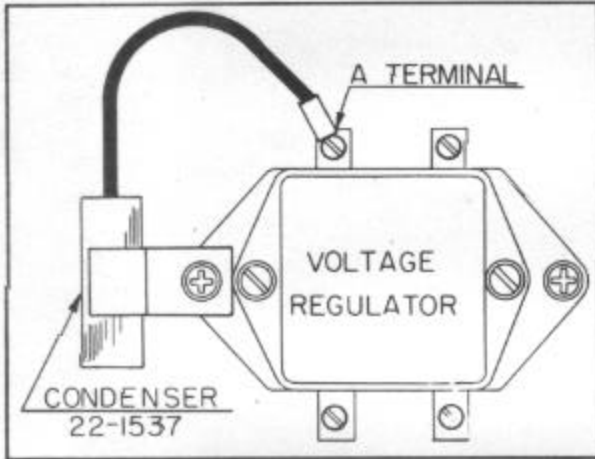

FIGURE 37
1. Remove the mounting screw of the voltage regulator and under this screw mount a condenser. Connect the lead to the voltage regulator "A" terminal. (Figure 37).